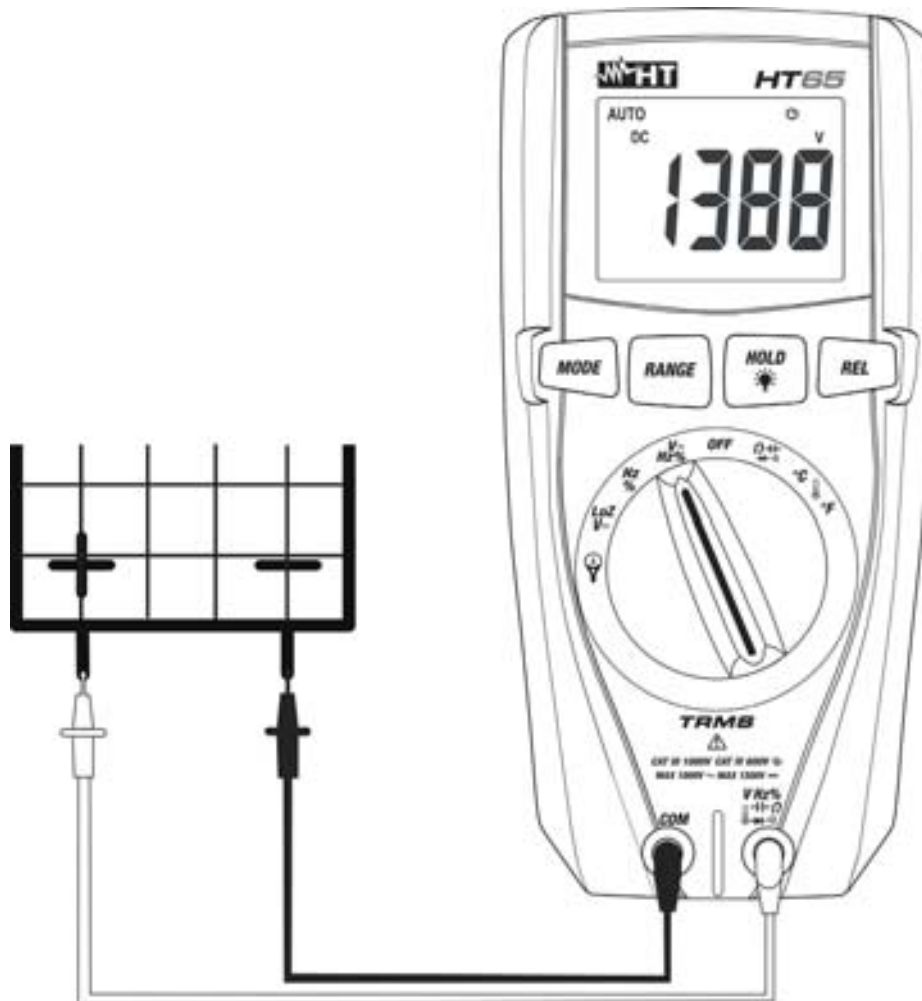

Fig. 2: Use of the instrument for DC Voltage measurement
4. Position the red lead and the black lead respectively in the spots with positive and negative potential of the circuit to be measured (see Fig. 2). The display shows the value of voltage.
6. When symbol "-" appears on the instrument's display, it means that voltage has the opposite direction with respect to the connection in Fig. 2.
4. Position the red lead and the black lead respectively in the desired spots of the circuit to be measured (see Fig. 4) or in the spots with positive and negative potential of the circuit to be measured (see Fig. 2). The display shows the value of voltage.
6. When symbol "**-**" appears on the instrument's display, it means that voltage has the opposite direction with respect to the connection in Fig. 2